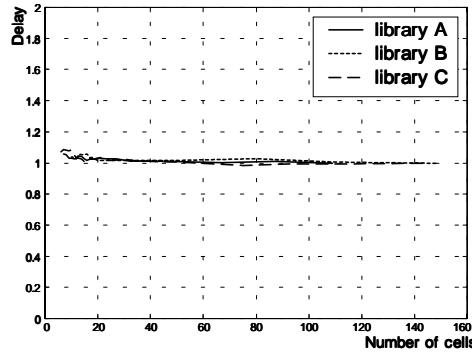

Fig. 2 Average of relative delay versus number of cells.
All these three libraries contain around 400 cells and are used actually in commercial and academic LSI designs. It takes more than a week to complete calculation for one library using a 400 MHz Sun Enterprise 450 workstation. The variation of delay, area and power versus the number of cells are shown in Figs. 2, 3 and 4 respectively. The horizontal axis signifies the number of cells. Delay, area and power are calculated using equation (3).
Three libraries show the same tendency. In both three cases, the number of cells ranges between around 150 and 10. The maximum number of cells (about 150, which is the right most value of the curves in Figs. 2, 3, 4 and 5) is much less than the number of cells available in the original libraries. This means that the remaining 250 cells are left unused in this case.
The curves in Figs. 2, 3, and 4 show that the library with a